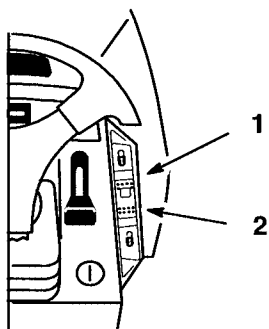

Figure 13
The cruise control is optional on some models. A 3 position: Lock-Set (spring loaded), On and Off-Unlock dash switch (Fig. 13) controls the engagement. Cruise control maintains the traction control position without foot pressure. Cruise control is intended for operation in the forward direction only. Do not use cruise control in reverse.
1. Begin driving tractor: Refer to Driving Forward or Backward, Page 13. While holding your foot steady on the traction control, push the cruise control switch (Fig. 13) to the "LOCK"- "SET" position.
1. While holding your foot steady on the traction control, move the cruise control switch (Fig. 13) to the "UNLOCK"- "OFF" position.